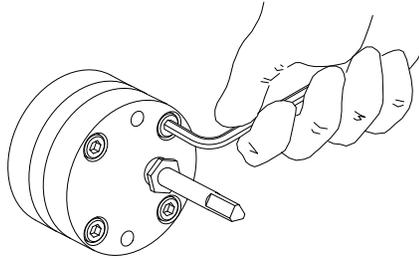

Figure 5-2 Tightening the pump screws
3. See Figure 5-2. Tighten the screws to 25 N•m (222 in.-lb).